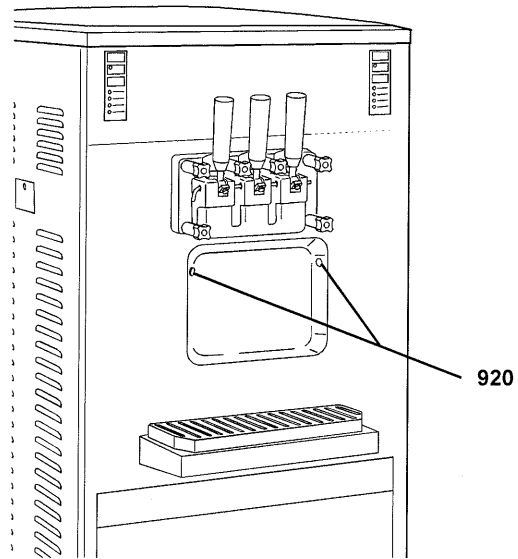

Fig.9
The proximity switches pos. 920 (Fig.9) have been preset at the factory and their range is 9-14 inches approx.